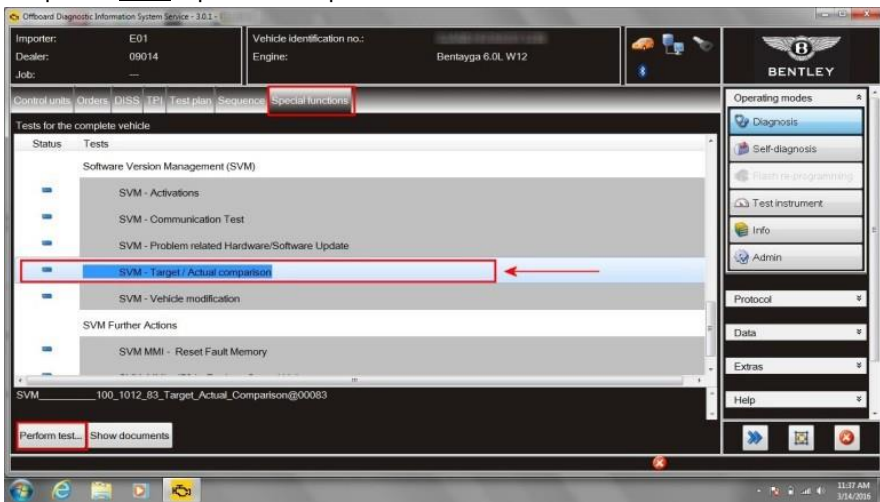

Figure 7
- 16. Perform SVM – Target/Actual comparison (see Figure 7)